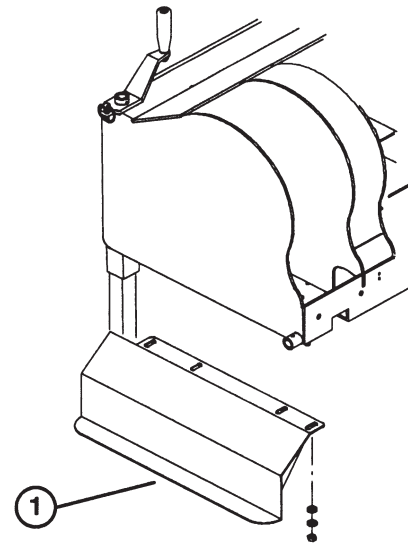

Figure 4
1. Remove the (4) nuts, lock washers and washers loosely secured to each bottom end of the aerator frame.
2. Position the appropriate side guard (left or right) onto the mounting studs (Fig. 4).